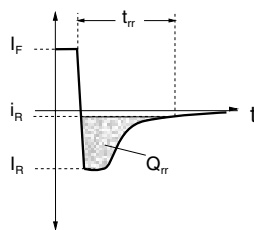

Fig. 15
- $t_{rr}$  Reverse recovery time** — Time from start of switching procedure of forward range ( $I_F$ ) via the depletion phase and via the reverse range with elevated reverse current ( $I_R$ ) until return of reverse current to a specified value ( $I_R$ ) or  $U_R$  (see Fig. 15).
- $Q_{rr}$  Reverse recovery charge (storage charge)** — Total charge (cross-hatched area in Fig. 15) causing reverse delay ( $t_{rr}$ ). This charge is measured in nanoampere-seconds (nAs) = nanocoulomb (nC).